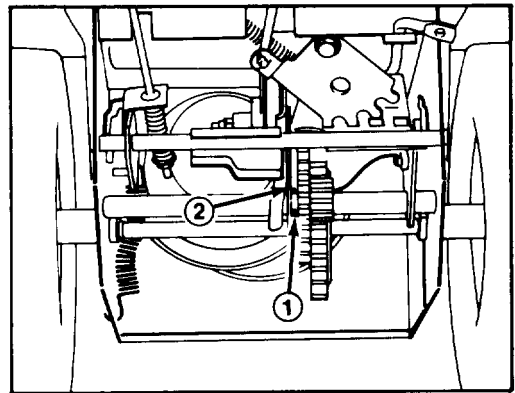

Figure 30
3. Shift speed selector to third gear and push down on speed selector plate to move drive assembly to the right. Drive assembly should contact roll pin; if not, push to the right to make a contact (Fig. 30).